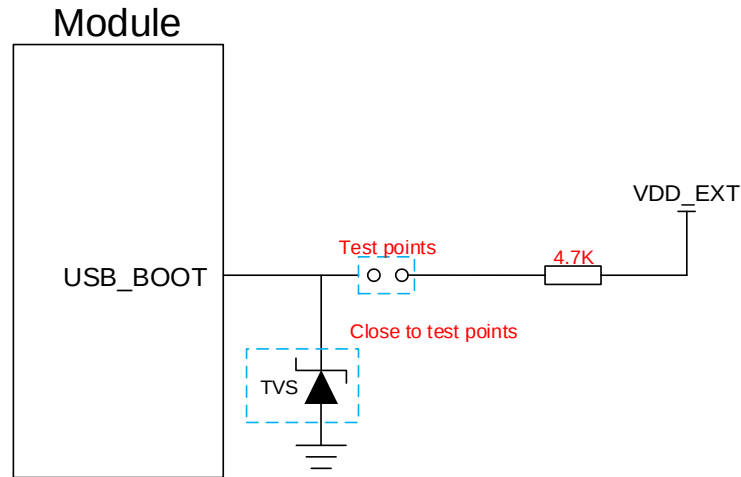

Figure 31: Reference Circuit of USB\_BOOT Interface
2. When using MCU to control module to enter the emergency download mode, please follow the above timing sequence. It is not recommended to pull up USB\_BOOT to 1.8 V before powering up VBAT. Connect the test points as shown in **Figure 31** can manually force the module to enter download mode.